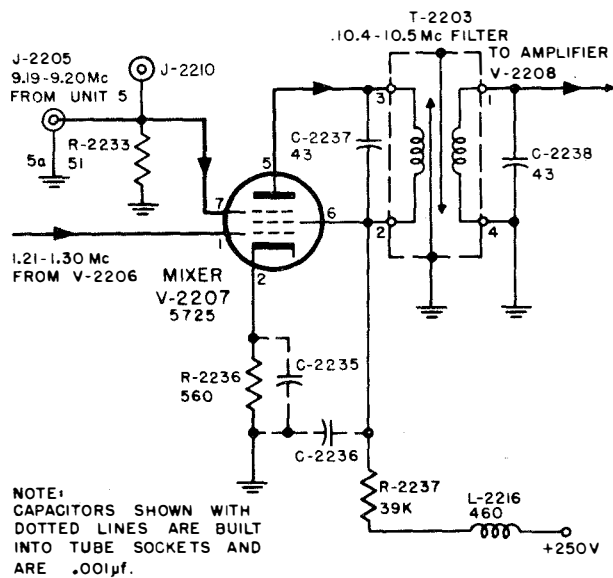

Figure 2-19. RFO Unit 6, Mixer V-2207, Simplified Schematic
(5) 10.4- TO 10.5-MC MIXER V-2207.—The control grid of mixer V-2207 (figure 2-19) receives the 1.21- to 1.3-mc output of V-2206, and the suppressor grid receives 9.19 to 9.2 mc (5a) from unit 5 through J-2205 and load resistor R-2233. Test point J-2210 is provided for testing input 5a (approximately 1.3 volts). These two signals are mixed by V-2207 and the output, 10.4 to 10.5 mc, is filtered by the double-tuned filter, T-2203, C-2237 and C-2238, and is coupled through R-2242 to the control grid of amplifier V-2208.